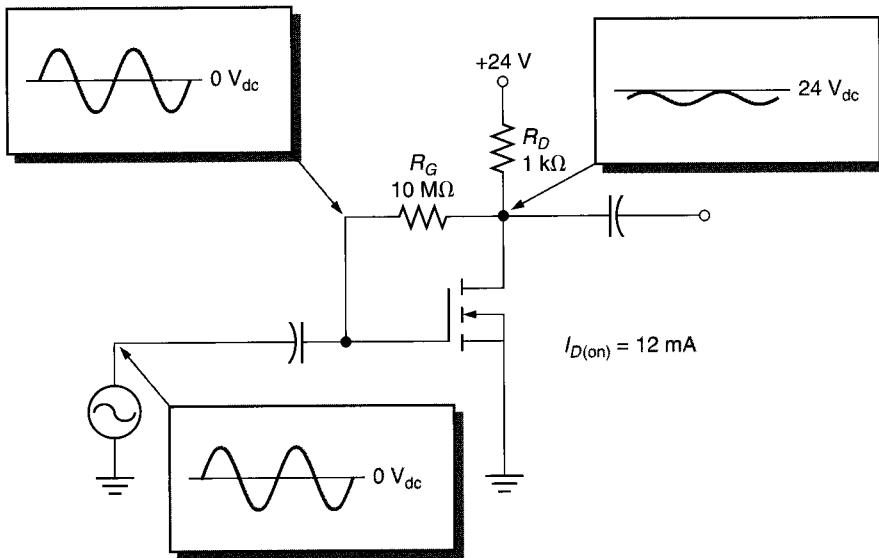

FIGURE 13.35
17. The circuit shown in Figure 13.35 has the waveforms shown. Discuss the possible cause(s) of the problem.